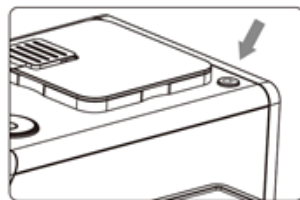

Fig. 1
Connect the appliance to the mains and press the button (9) located to the right of the bean container (Fig. 1) Once switched on, the preheating indicator  light will illuminate to indicate that the preheating process has started. Once the preheating process is complete, the machine will start the cleaning process, place a container to collect the water under the coffee spout (2). When the cleaning process is complete, the beverage and «Cleaning» indicators will be illuminated and the Start/Stop button will go out, indicating that the machine is ready to prepare beverages.